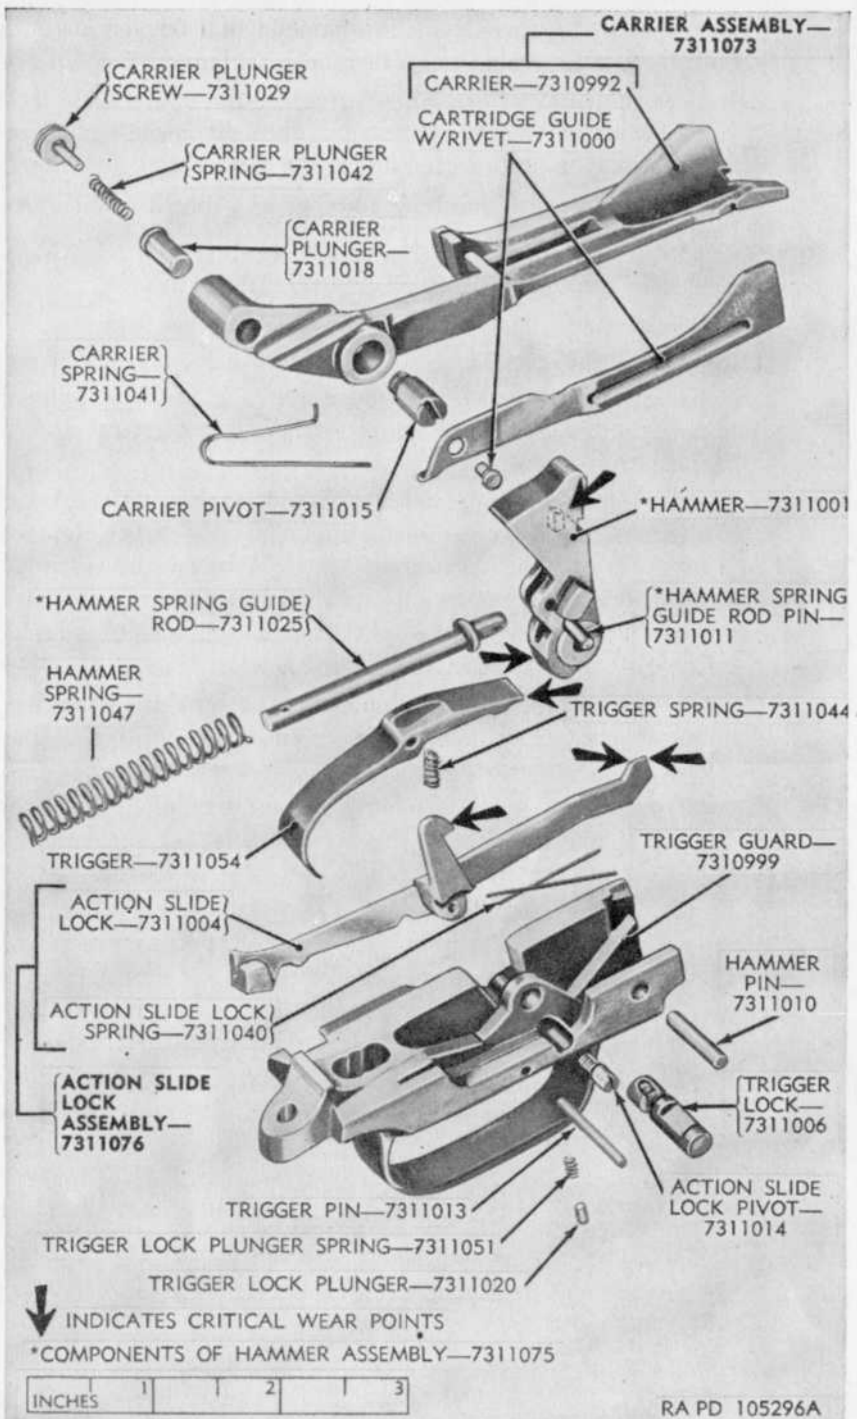

Figure 26. Trigger guard group—exploded view.
- (2) If adjusting sleeve has been moved back to the last notch, replace standard adjusting sleeve with heavy or extra heavy draw adjusting sleeve.
- (3) Barrel extension is to seat on receiver; end of barrel is to seat on chamber ring; and adjusting sleeve lock is to seat in the first notch of heavy or extra heavy draw adjusting sleeve.
a. Removal and Disassembly (fig. 26).
- (1) Replace all broken, worn, or otherwise unserviceable parts. Replace all missing parts. Remove burs and rust as explained in paragraph 27*e* and *f*. Remove foreign matter from shell seat of the carrier assembly.
- (2) Tighten the rivet which holds the cartridge guide to the carrier, if it is loose. Remove bends and kinks from the guide. Replace unserviceable carrier pivot and spring. Replace the cartridge guide with rivet, if it is unserviceable; if the carrier is unserviceable, replace the whole carrier assembly.
- (3) If carrier plunger does not operate correctly, remove carrier plunger, screw, and spring from carrier and replace unserviceable parts.
- (4) When engagement of hammer and trigger is faulty, replace both parts. If trigger pull is light, stone the nose of the trigger in such a manner that a sharper angle is formed with the upper surface of the trigger. Replace unserviceable trigger spring and hammer spring.
- (5) Remove foreign matter from the sear notch and from the safety aperture in trigger and replace unserviceable trigger, trigger lock, trigger pin, trigger lock plunger, and trigger lock plunger spring. Remove foreign matter from slots in trigger lock.
- (6) Replace action slide lock assembly, if action slide lock is unserviceable. Replace springs and action slide lock pivot, if they are missing or broken.
- (7) Replace trigger guard, if found to be unserviceable (DEPOT MAINTENANCE ONLY).
- (8) If the hammer is beyond repair, replace the hammer assembly. Replace hammer spring guide rod, hammer pin, and hammer spring guide rod pin, if beyond repair.
d. Assembly and Installation (fig. 26).
- (1) Insert the trigger lock plunger spring and trigger lock plunger in their recess on the underside of the trigger guard. Insert the trigger lock in its hole in the right-hand side of the trigger